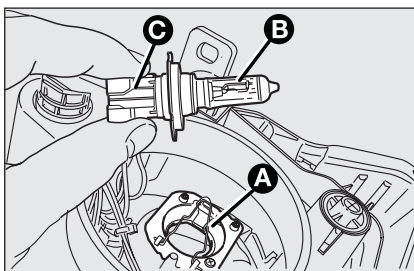

fig. 12
- disconnect the connector **C**-fig. 12;
- remove the bulb holder **A**-fig. 12